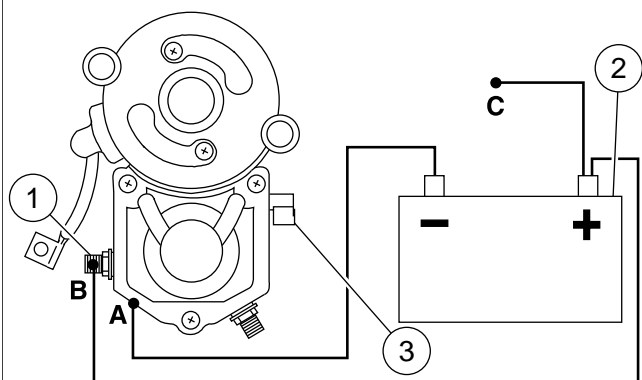

Figure 1-15. Test 3: Return Test
1. See Figure 1-15. With test leads still connected in the manner specified at the end of the previous 1.8 TESTING STARTER ON BENCH, Solenoid Hold-In Test, disconnect solenoid relay terminal/ positive battery post test lead (C) at either end.